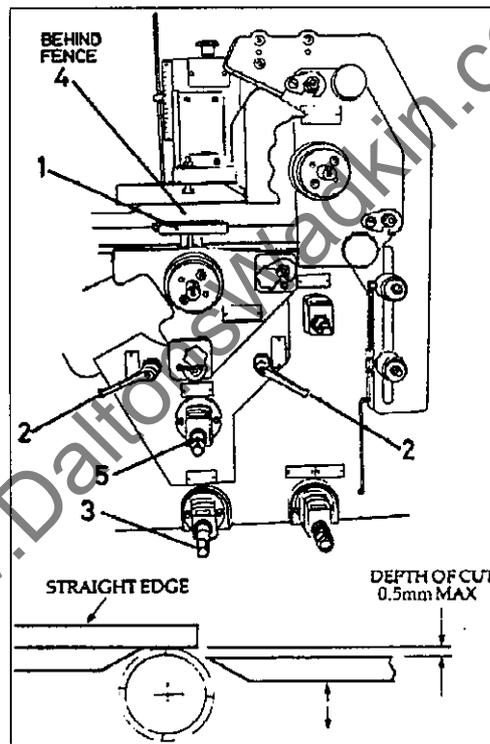

Figure 8.8.3
- 5 Slacken the two locking nuts (3).
- 7 Tighten locking nuts (3).
- 8 If necessary, use stop screws (4) to achieve accurate alignment of all three chipbreaker noses.
- 9 To adjust the chipbreaker laterally, slacken the two locking nuts (5) and position the nose using adjuster (6) until it is 10 to 15mm from the cutter block.
- 10 Tighten locking nuts (5).
8.8.3 Setting Second Bottom Head (Figure 8.8.3)